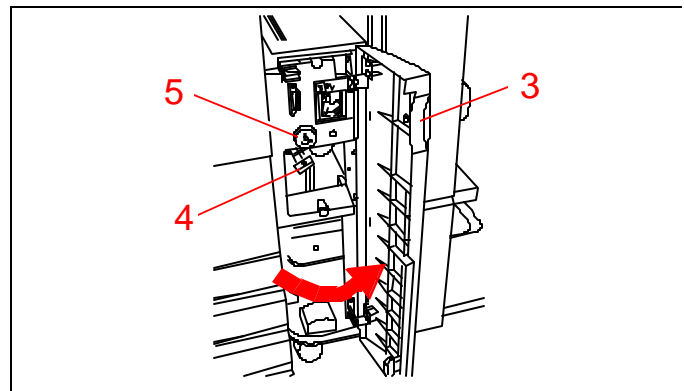

Figure 16
3. If the jam is behind the left front door, see Figure 16. Pull open the left door.